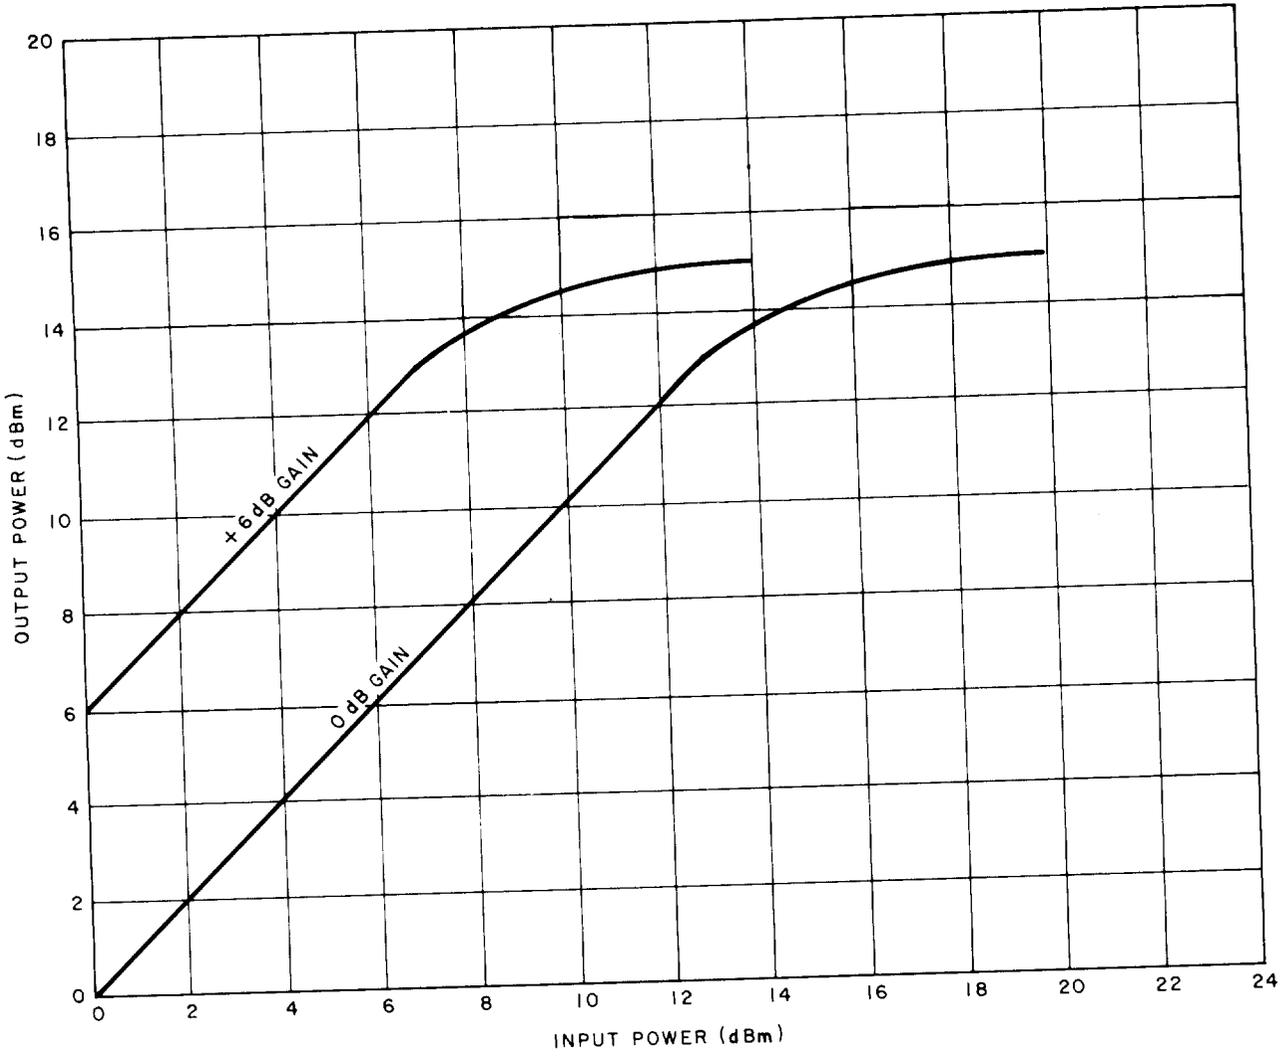

Fig. 6—Output Power Capability of the J99343GE CFU
3.05 Figure 6 shows the output power capability of the 2-2 (NL) terminal repeaters. The output power is determined by input power and repeater